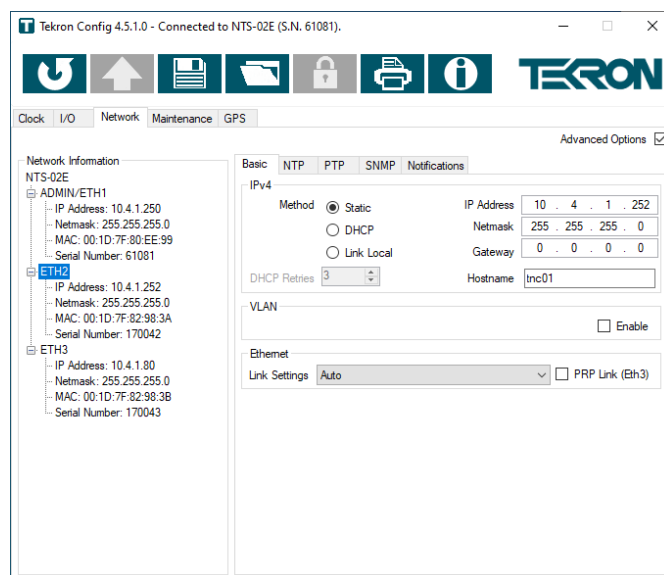

Figure 2. Disabling PRP
2. **Check that PRP is Disabled:** Use the latest Tekron Configuration Tool to check that the clock to be upgraded has PRP disabled. To check the PRP settings, go to the Basic Network Tab and select the Advanced options. Check that the PRP Link checkbox is not selected for ETH2 and for ETH5 if present (Figure 2).